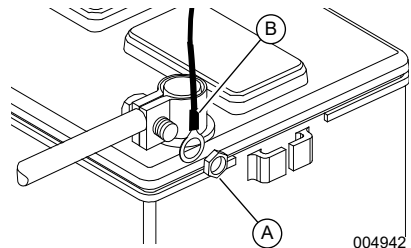

Figure 3-10. Attach Harness Power Wires
- For units equipped with Evolution 1.0 controllers or earlier:** See **Figure 3-10**. Loosen and remove nuts (A) from both positive (+) and negative (-) battery terminal screws on battery cables. Slide harness power wires (B) over battery terminal screws and replace nuts. Tighten securely.